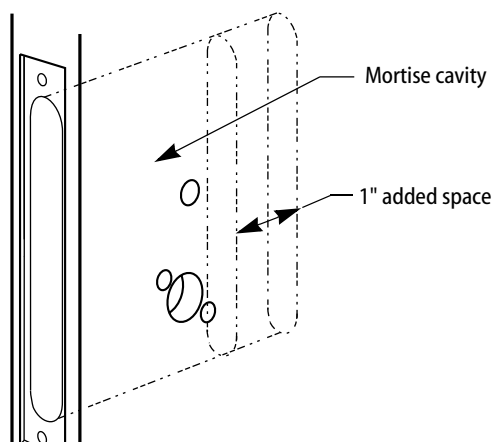

Figure 2—Extending the mortise cavity for wire connections
- With a 1" dia. drill bit extending into the mortise cavity, drill out an additional 1" as shown in Figure 2.